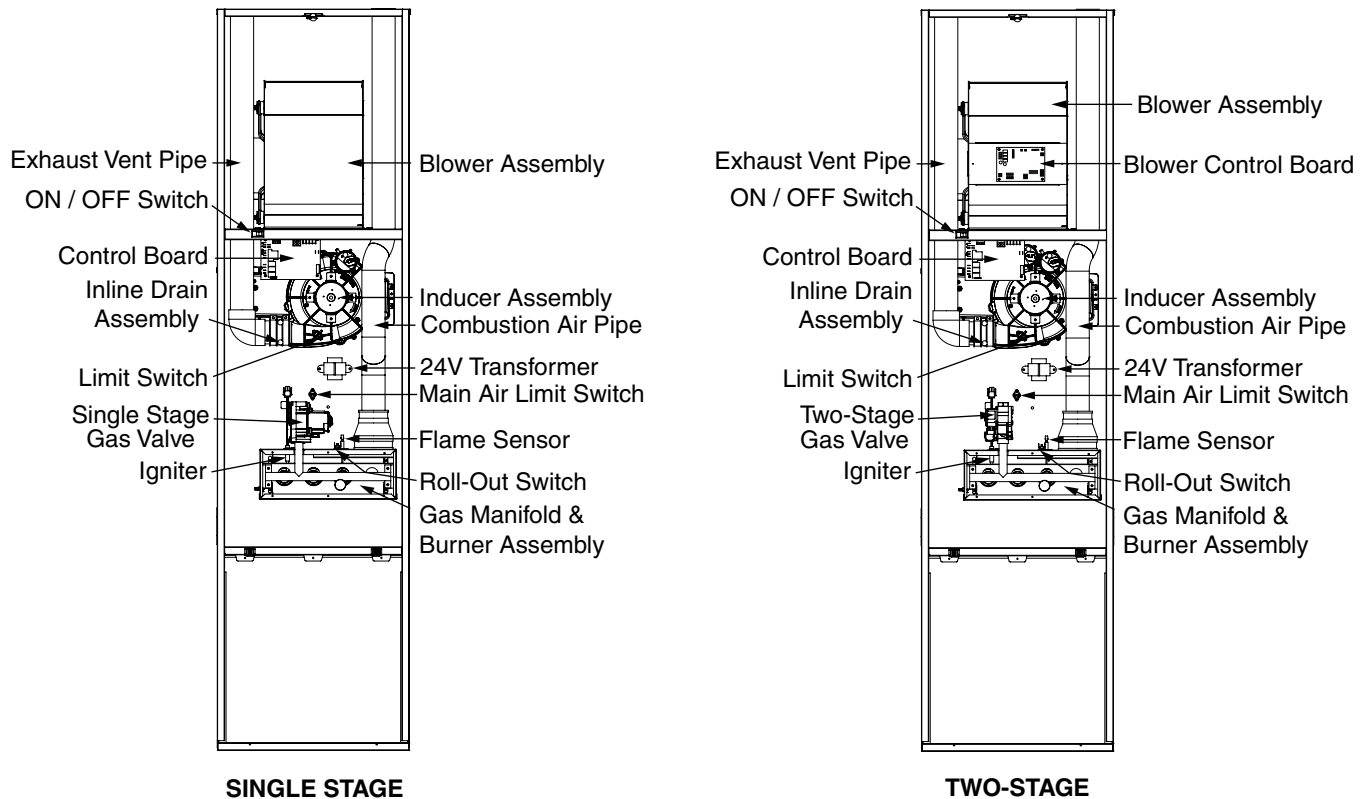

Figure 3. RG7D Furnace Components
2. Is the On / OFF switch (inside the blower compartment) turned on? See Figure 3 (page 8).
The furnace components shown in Figure 3 will help identify and locate various parts of the furnace. The component you need to familiarize yourself with is the gas valve. You will use this to turn the furnace on and off. There are no user serviceable parts. All repairs must be done by a licensed HVAC technician.